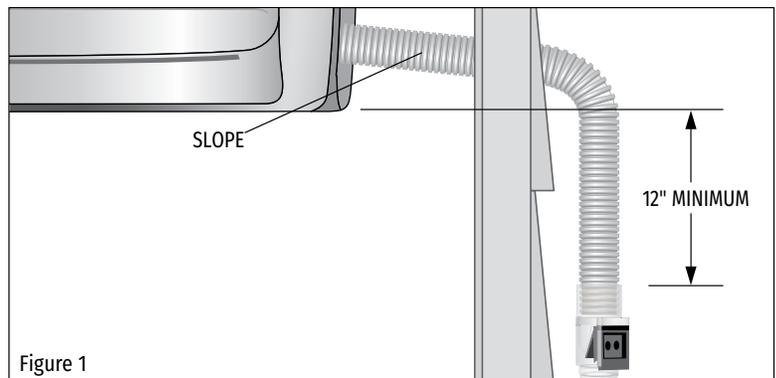

Figure 1
1. Inline Check Valve must be fitted at least 12" below indoor unit (Figure 1).